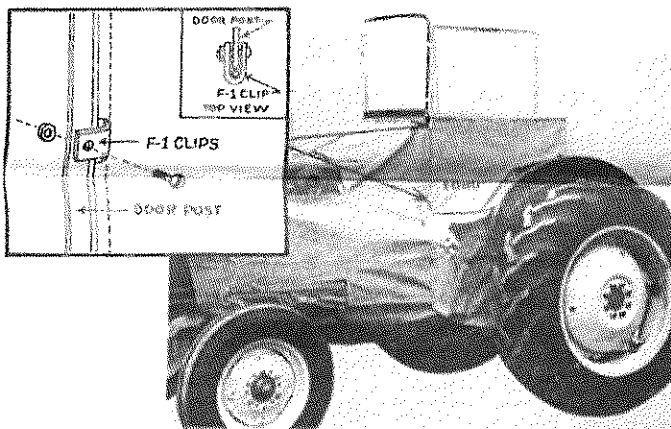

Figure 3
10. Find hinge holes in LH Door Post and punch holes through Motor Cover at hole locations. Place LH Door Assembly level with the bottom of the Yoke and mark Door Post hole locations. Cut slits in Door Assembly around wire frame and insert F1 clips. Attach F1 clips to Door Post using 3/16x3/4" hex bolts and nuts. Repeat for RH Door Assembly. Snap door flap to Motor Cover and run strap on bottom from LH to RH door. See Figure 3 and Window Assembly Instructions.